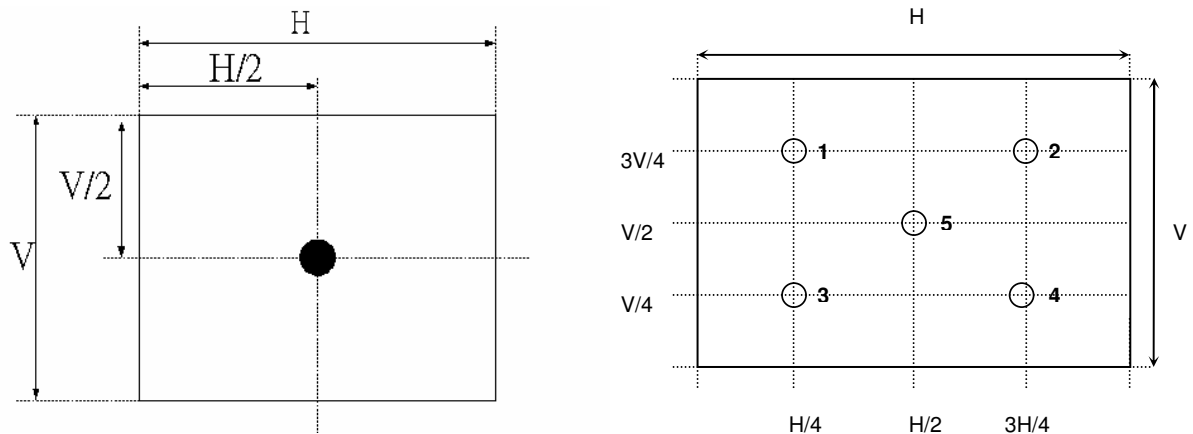

Fig.4-2 Optical measurement point
2. Surface luminance is luminance value at point 1 across the LCD surface 50cm from the surface with all pixels displaying white. From more information see Fig. 4-2. When $V_{DDB} = 24V$, $I_{DDB} = 6.4A$.